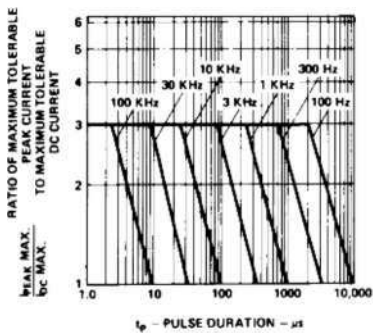

Figure 5. Maximum Tolerable Peak Current vs. Pulse Duration. ($I_{DC\ MAX}$ as per MAX Ratings).
1. See Figure 5 (Red/Orange), 10 (Yellow), or 15 (Green) to establish pulsed operating conditions.